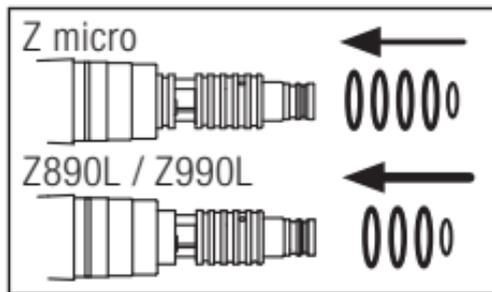

Fig. 38
- 3 Insert the complete set of new O-rings in the correct grooves (Fig. 38).